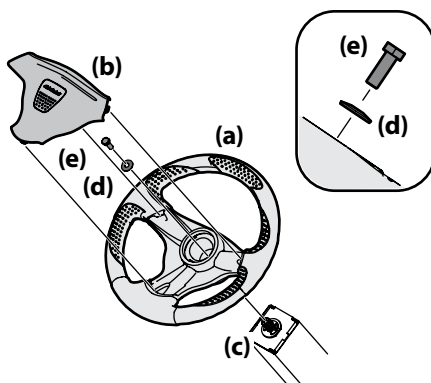

Figure 2-7
1. Remove the hardware for attaching the steering wheel (a) from beneath the steering wheel cover (b). Carefully pry off the steering wheel cover (b) to remove the hardware. See Figure 2-7.